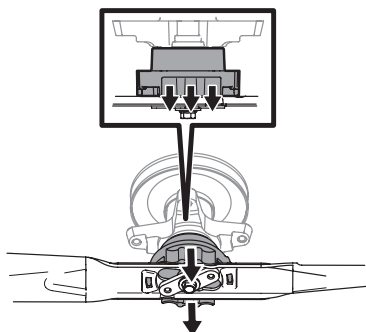

Figure 50
- There will be an audible click when the blade is properly locked in place. See Figure 50.